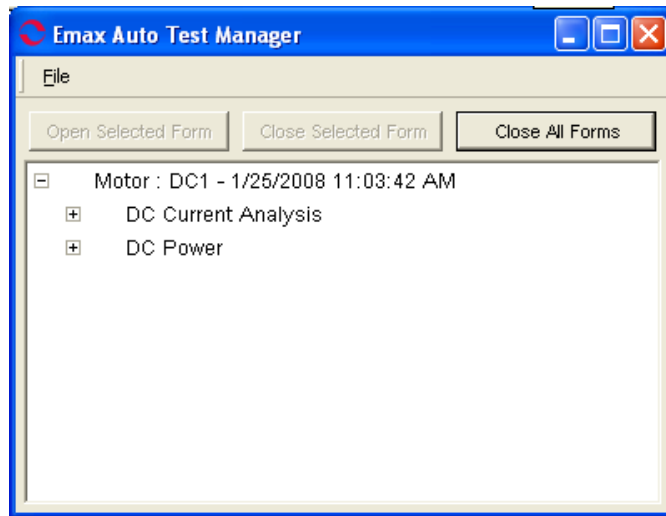

Figure 6-33: DC EMAX Auto Test Manager Window
17. The EMAX Auto Test Manager window shown in Figure 6-33 can be expanded in order to identify which test results are displayed and make changes to the display. Figure 6-34 shows the expanded menu.